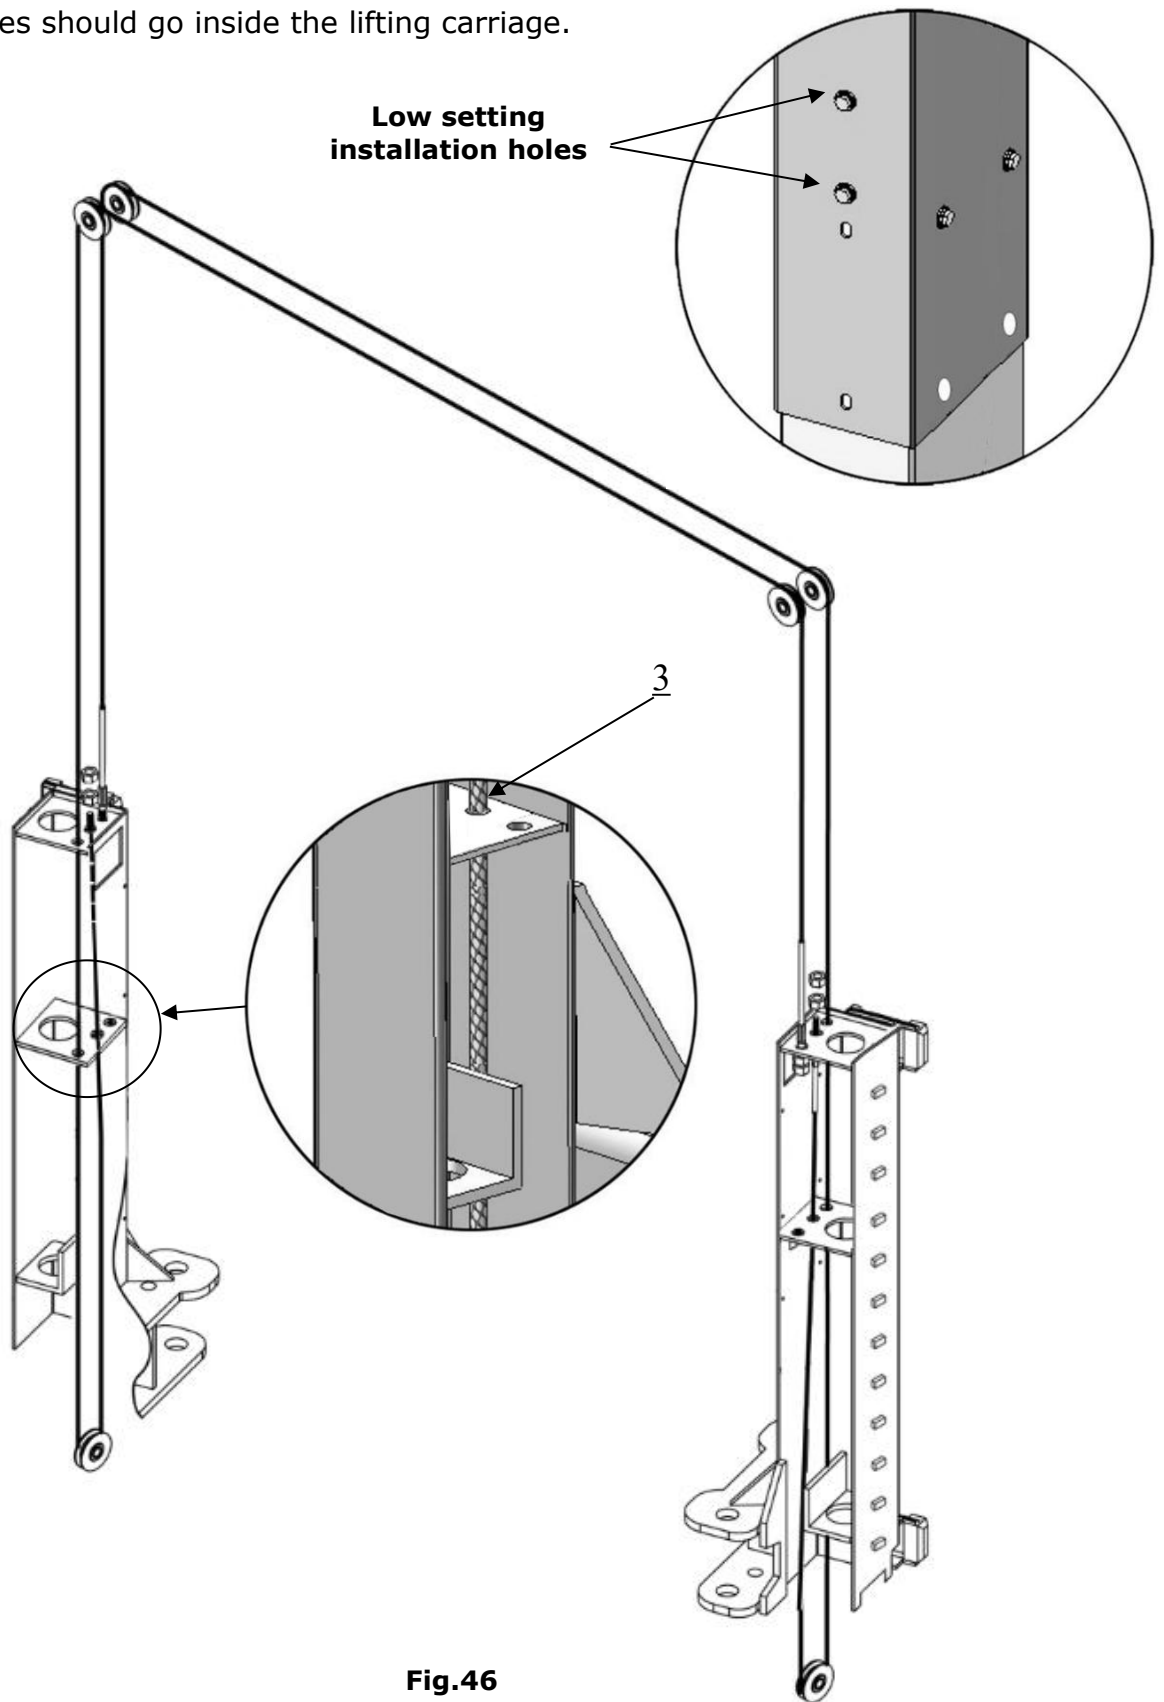

Fig.46
2.1. OHX-10H: Cable connection for low setting. (Fig. 46)